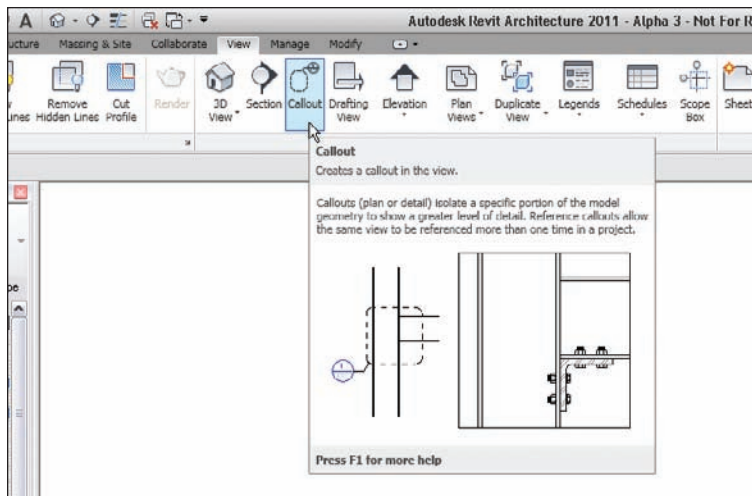

FIGURE 3.60 The Callout button is located on the View tab.
3. On the View tab, click the Callout button, as shown in Figure 3.60.